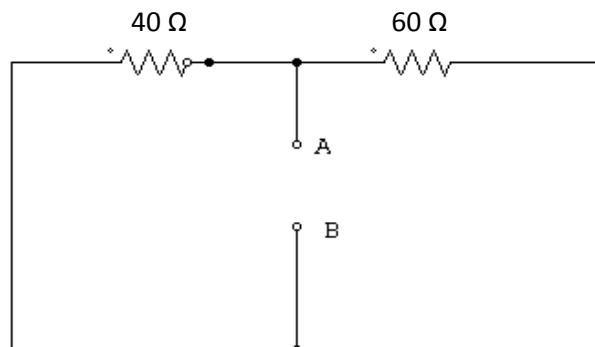

Fig.1.80
Step 1: To find Norton's resistance R_N open the load resistance & voltage source is replaced by short and circuit is redrawn as follows in Fig1.80.